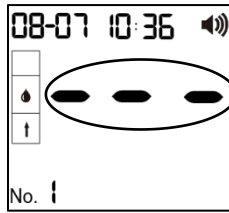
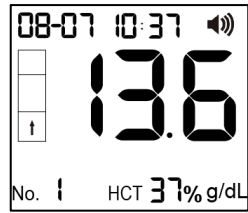

Fig. 32
Fig. 33
- The meter will begin testing automatically with three dashes in a line flashing on the LCD indicating the test is in progress. The test result (Hb concentration and Hct value) will be displayed in 15 seconds. (Ref Fig. 32, Fig. 33)